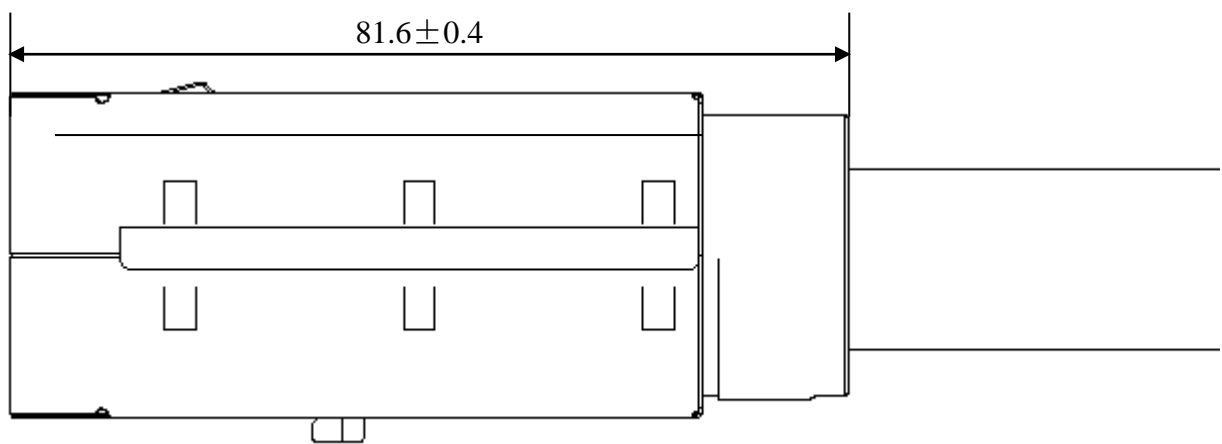

Figure 13: Inspection dimension of shielding ferrule assembly
C. Inspection dimensions as shown in figure13.